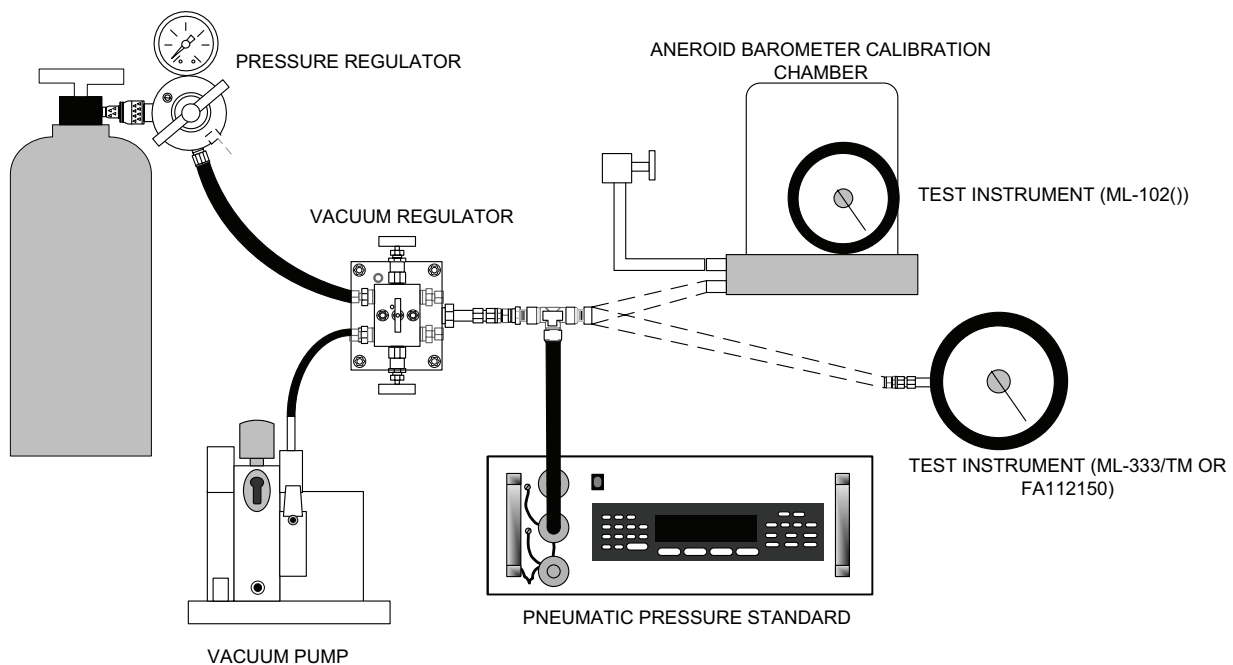

Figure 1. Test instrument - equipment setup.
- d. Connect equipment as shown in figure 1. Use appropriate connections for model being calibrated.
(1) Connect equipment as shown in figure 1.
(2) Adjust vacuum regulator for a 900-millibar indication on TI. Record indication on pneumatic pressure standard.
(3) Adjust vacuum regulator for an 800-millibar indication on TI.
(4) Turn off vacuum pump and slowly vent TI until TI again indicates 900 millibars.
(5) Pneumatic pressure standard will indicate the value recorded in (2) above within the limits specified in table 1.